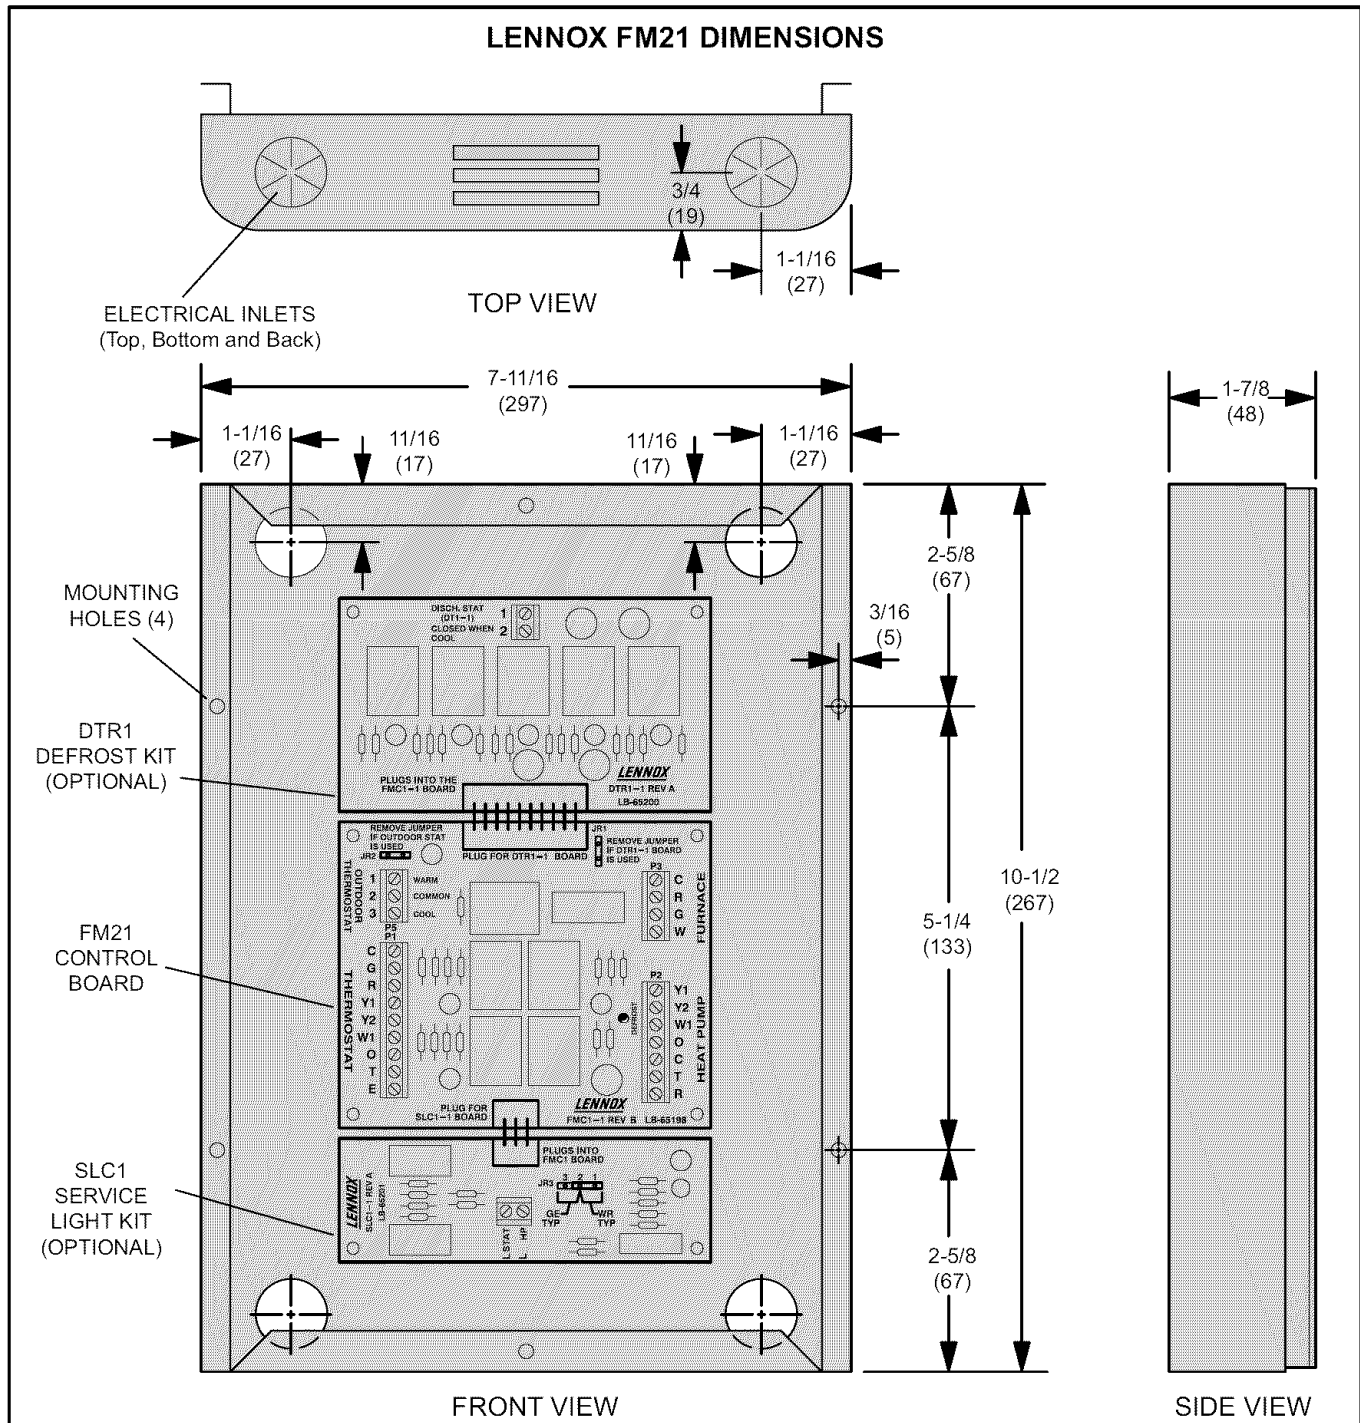

Figure 1
2. Use the provided screws to secure the control box. Refer to figure 1 for dimensions.